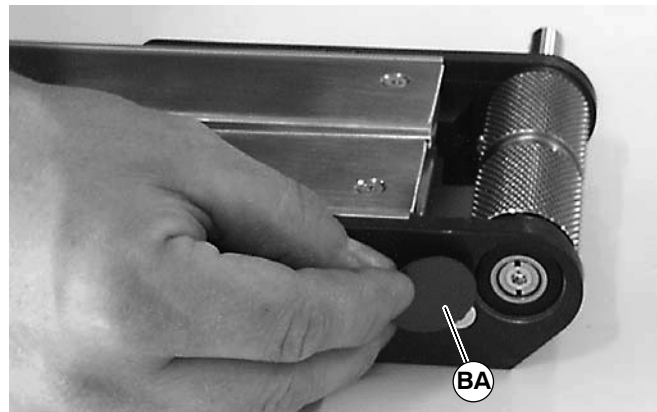

Figure 46
6. Install bearing cover (BA of Figure 46).